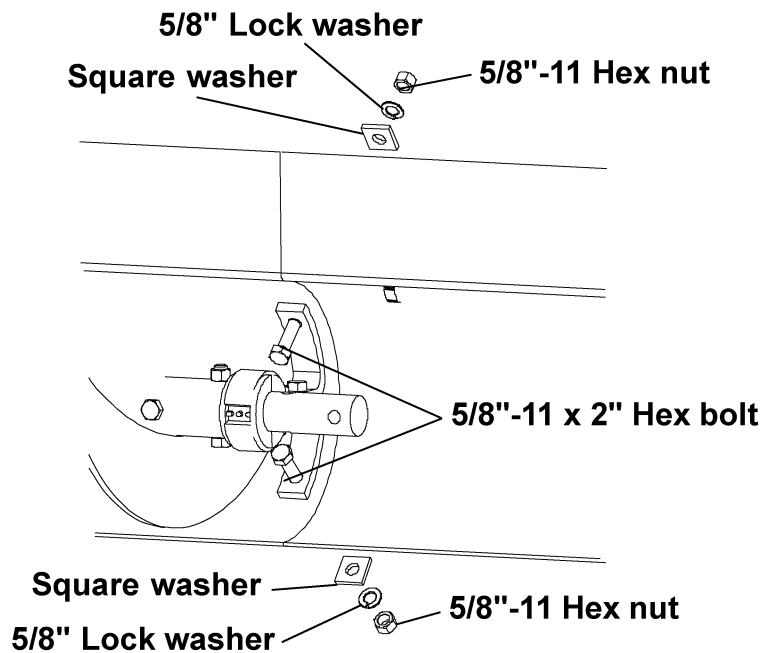

Figure 5N
- B. Bolt the hanger brackets to the back shields using two (2) 5/8"-11 x 2" hex bolts, two (2) square washers, two (2) lock washers and two (2) hex nuts as shown in Figure 5N.